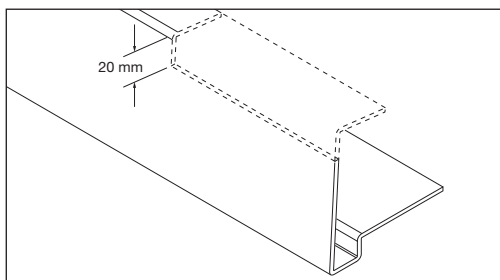

Fig 3 Cut away section at ridge
- 4 The horizontal flange of the extrusion is pushed between the top of the wall (or gable ladder) and tiling battens along its whole length. Ensure the bottom end lines up with the leading edge of the eaves tiling course (Fig 3).